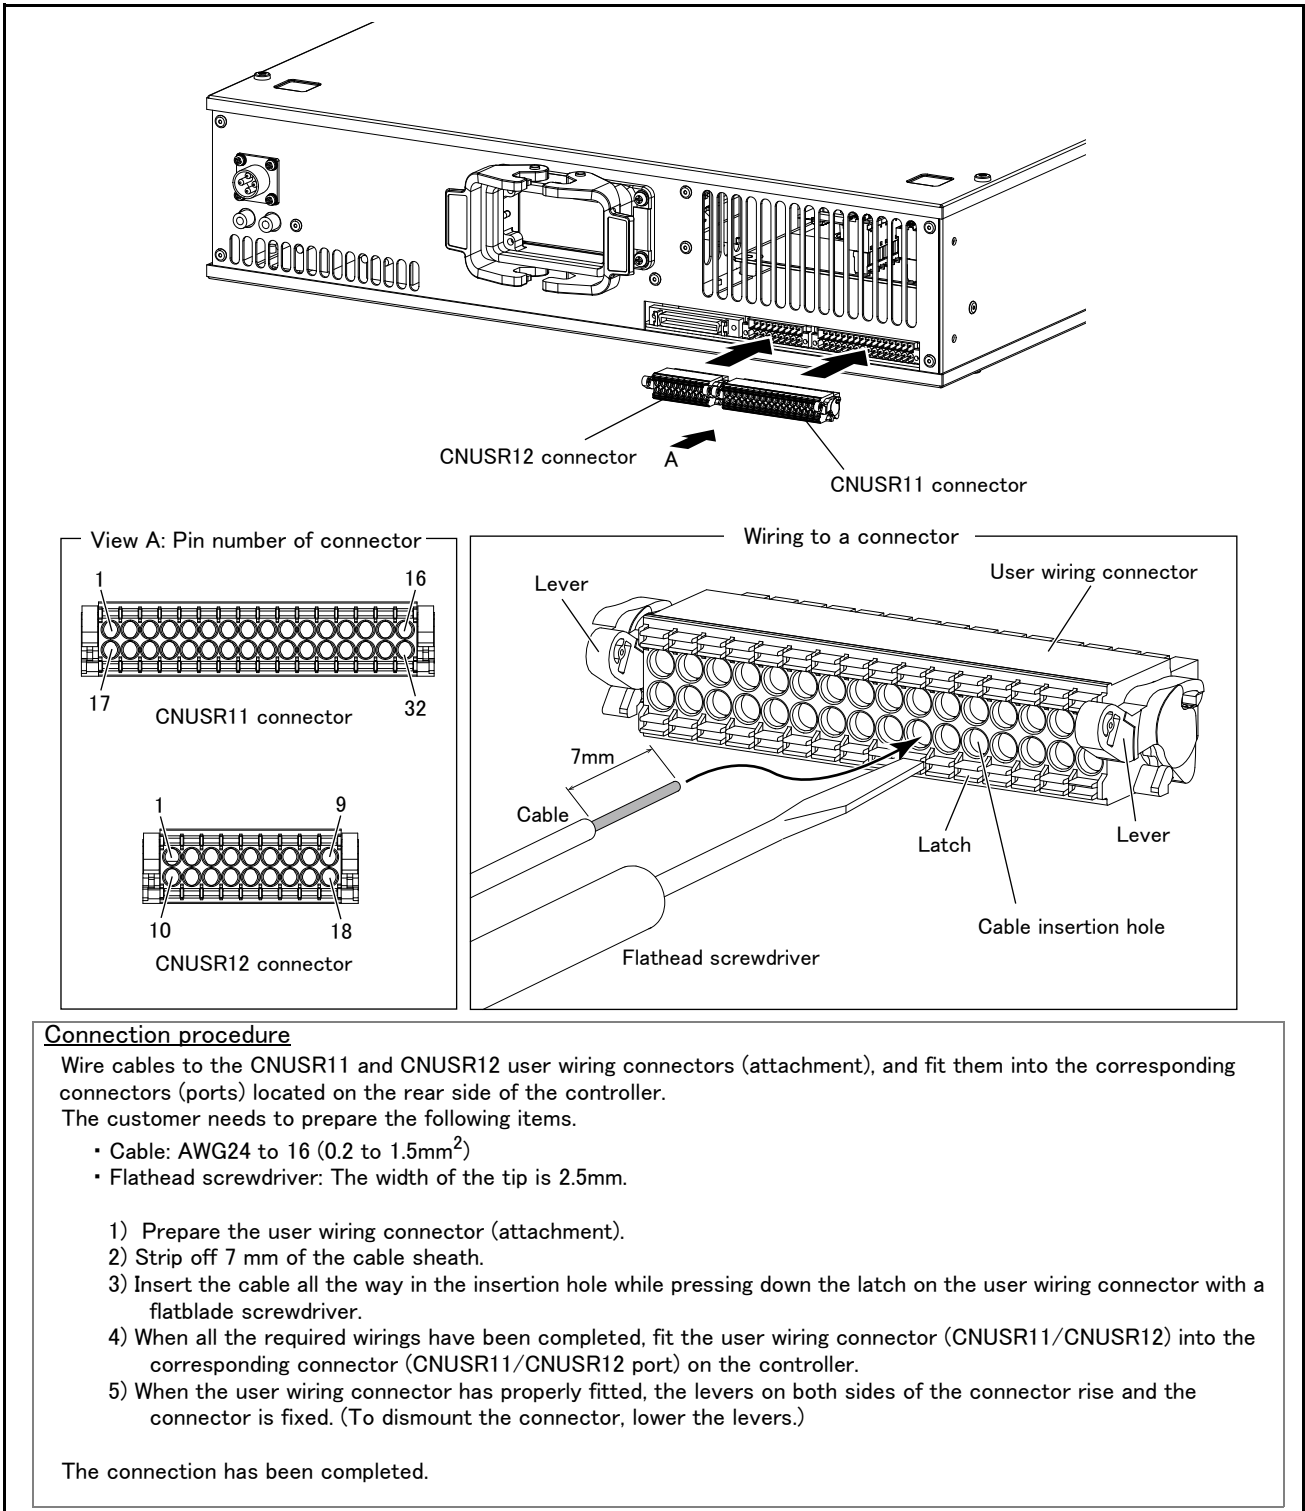

Fig. 2-11 : Wiring method to the user wiring connector
(2) Image of how to connect the controller connector
* Refer to Page 30 "Fig. 2-11: Wiring method to the user wiring connector" for more details about how to wire a connector.